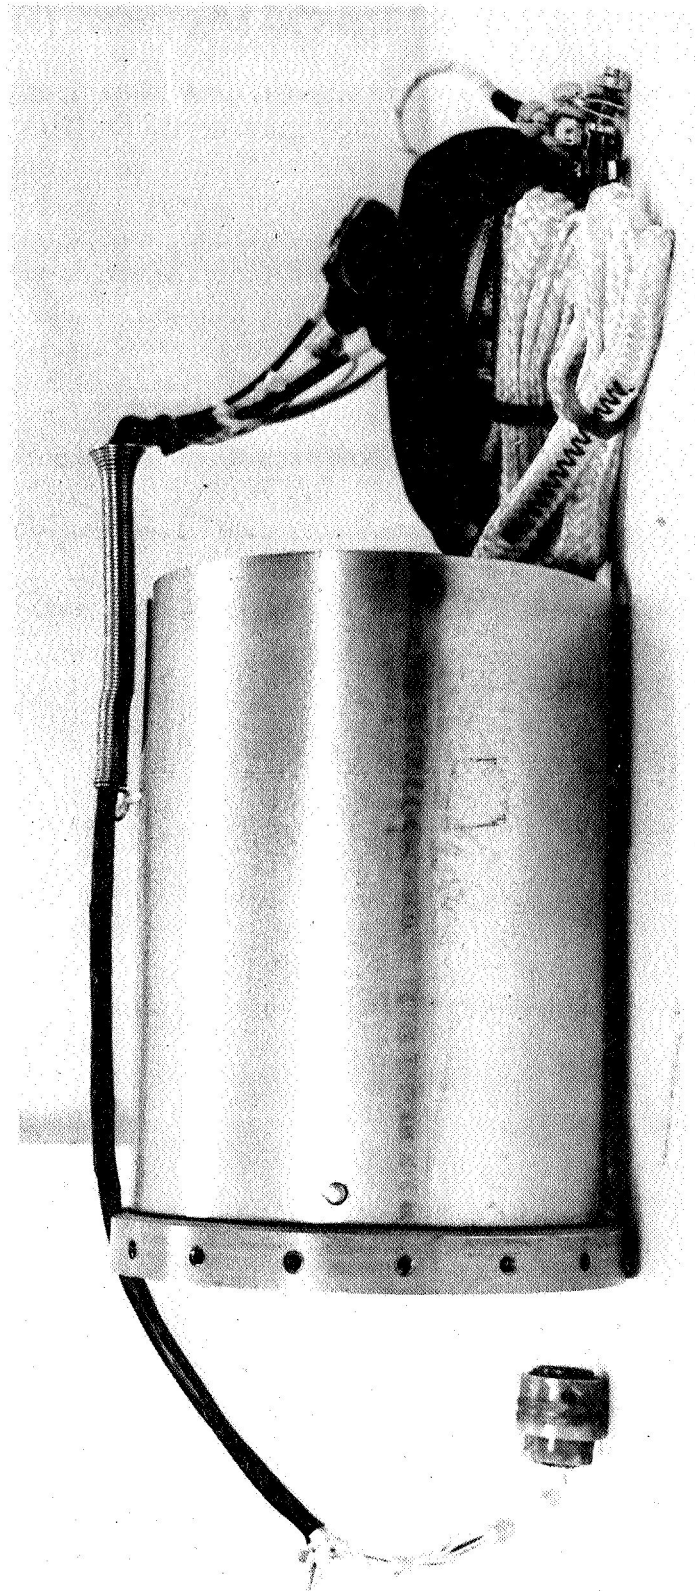

Figure 2-4. Cable Assembly Attached to Parachute Cylinder
- d. Tie cable assembly to parachute cylinder, as shown in Figure 2-4.